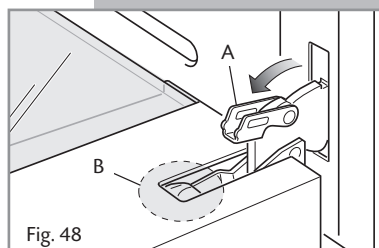
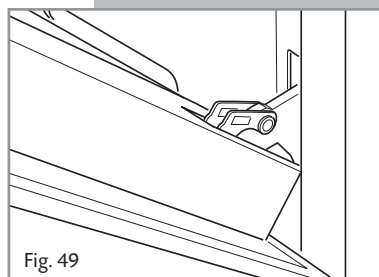

Fig. 48
Fig. 49
- Fully open the lever **A** on the left and right hinges (Fig 48).
- Gently close the door (Fig. 49) until the left and right hinges are hooked to part **B** of the door (Fig. 48).
1. Make sure the door is locked open (see fig. 49).